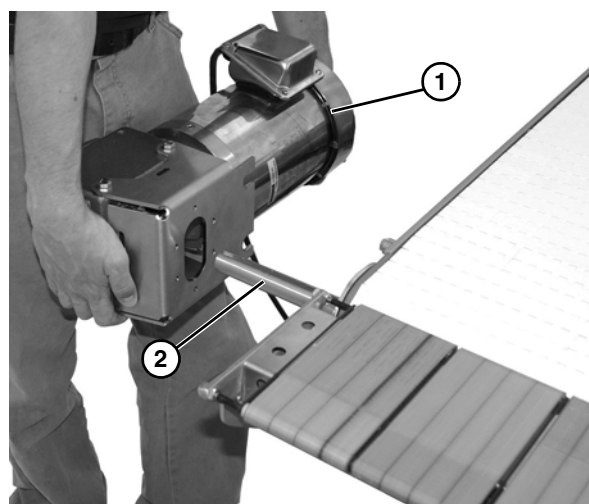

Figure 22
1. Attach the motor (**Figure 22, item 1**) to the conveyor output shaft (**Figure 22, item 2**).